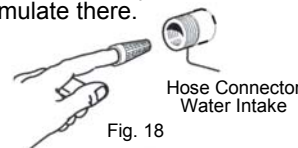

Fig. 18
**Checking the Water Intake Filter:** The water intake filter is located inside the water intake connector. (Fig. 18). Remove periodically and inspect for any deposits that might accumulate there.